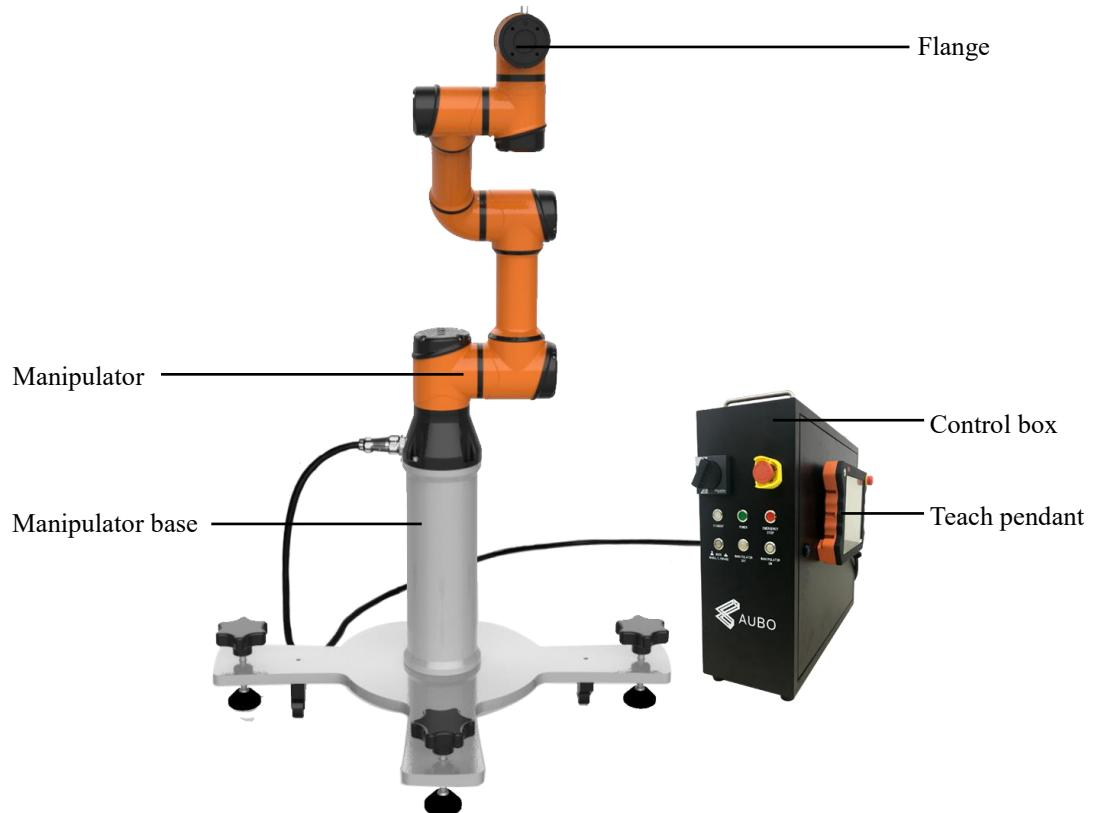
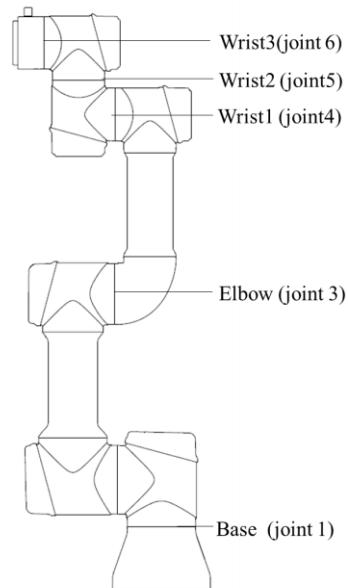

Figure 5-1 AUBO-i3 robot
Figure 5-2 -1 Manipulator Joints
As shown in figure 5.1, The AUBO-i3 robot system consist of a manipulator, a control box(which can choose a variety of models), a manipulator base and a teach pendant. The manipulator imitates human which has six joints and each joint represents a degree of freedom. As shown in figure5.2, manipulator's joint includes a robot base (A), a shoulder (B), an elbow (C), a wrist1(D) ,a wrist2(E) and a wrist3(F). The manipulator base is used for the robot body and the base connection. End-effector is used to connect manipulator and tool. Aluminium pipe is used to connect shoulder and elbow or elbow and wrist. Through the AUBOPE user interface or hand-guiding, users can control the rotation of every joint and move end-effector to any poses.